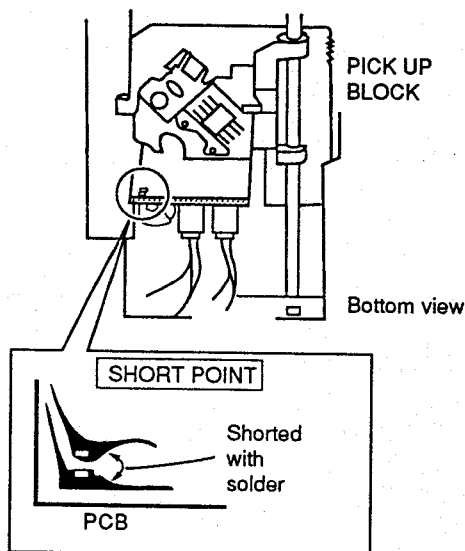

Fig. 3-1
- 2) Short the circuit on the PICK UP BLOCK with solder as shown in Fig. 3-1.